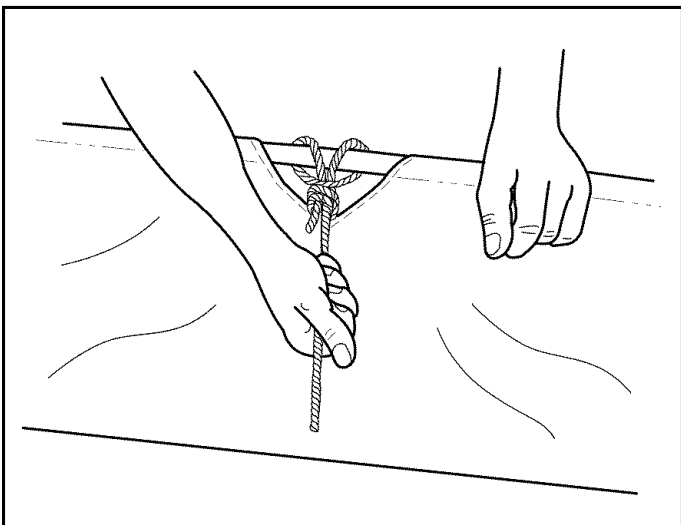

FIGURE 17
- Secure the rope to the top center of the hopper bag frame as shown in figure 17.